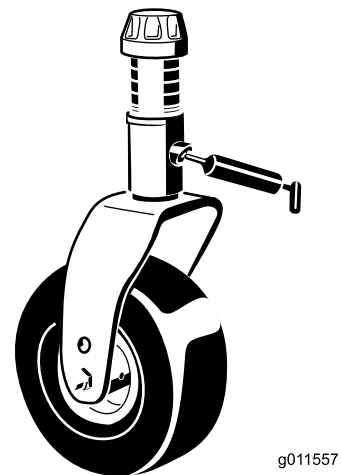

Figure 36
- Castor-fork-shaft bushings (2) (Figure 36)